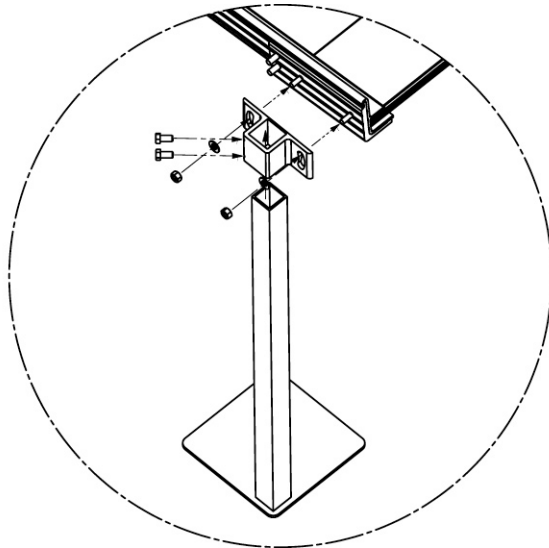
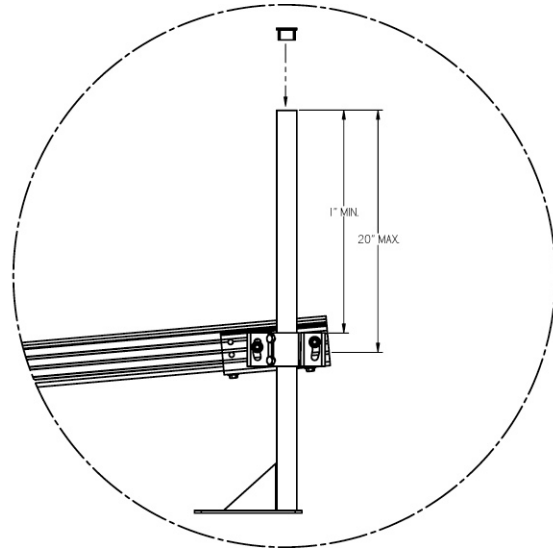

FIG. 17
FIG. 18
- 4.1 Install leg support brackets and support legs to ramp section(s) as shown in FIG. 17. **Note:** Ramp support legs should extend at least 1" past the support tube bracket but no more than 20" above the walking surface of the ramp (FIG. 18).